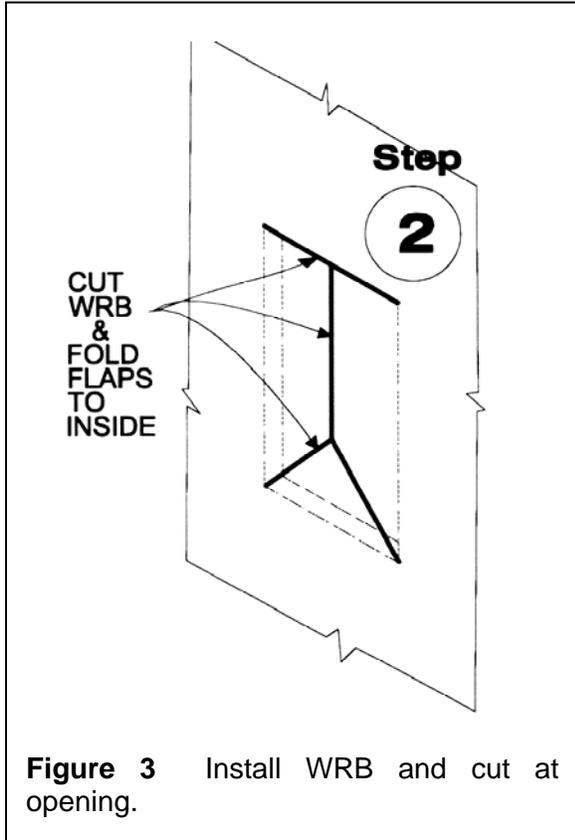

Figure 3 Install WRB and cut at opening.
Step 2. Apply the continuous weather-resistant barrier (WRB – e.g., house wrap) across opening. Cut WRB at opening in modified T-pattern. Fold WRB into opening at sides and bottom (see Figure 3).